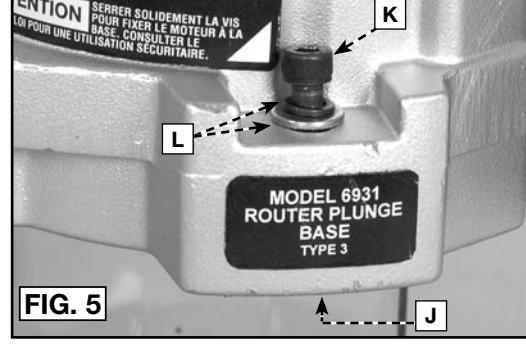
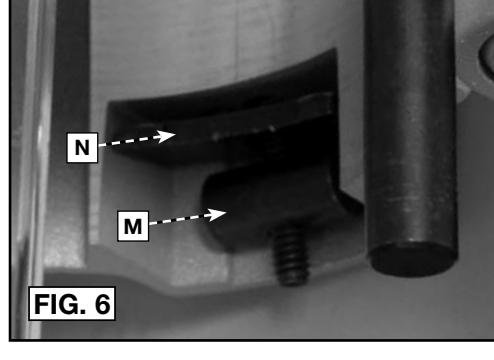
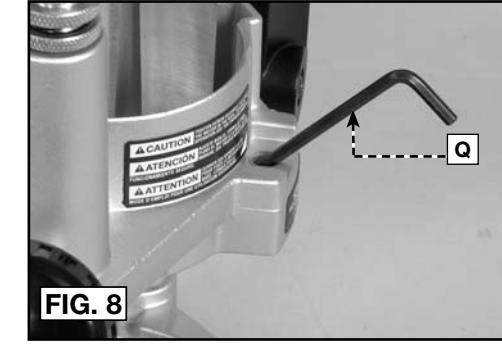

FIG. 5
FIG. 6
FIG. 8
1. Support the motor clamp (J) Fig. 5 and loosen the motor clamp screw (K) Fig. 5 approximately 1/2" (13 mm) with the hex wrench (supplied).
1. Remove the clamp screw (K) Fig. 5, flat washer, lock washer (L), and clamp-locking nut (M) Fig. 6.
2. Insert the hex wrench (Q) Fig. 8 to contact the locking plate (N) Fig. 6. Tap lightly to release and remove the locking plate.